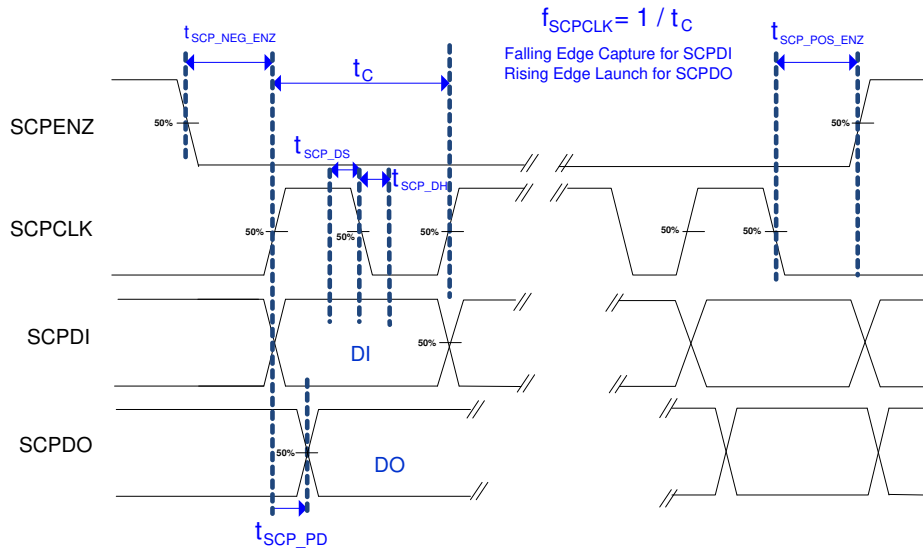

图 6-2. SCP Timing Requirements
- (6) Low-speed interface is LPSDR and adheres to the Electrical Characteristics and AC/DC Operating Conditions table in JEDEC Standard No. 209B, "Low-Power Double Data Rate (LPDDR)" JESD209B. Tester Conditions for VIH and VIL.
- (7) PWRDNZ input pin resets the SCP and disables the LVDS receivers. PWRDNZ input pin overrides SCPENZ input pin and tristates the SCPDO output pin.
- (8) The SCP clock is a gated clock. Duty cycle must be 50% ± 10%. SCP parameter is related to the frequency of DCLK.
- (9) See 图 6-2.
- (10) CP internal oscillator is specified to operate all SCP registers. For all SCP operations, DCLK is required.